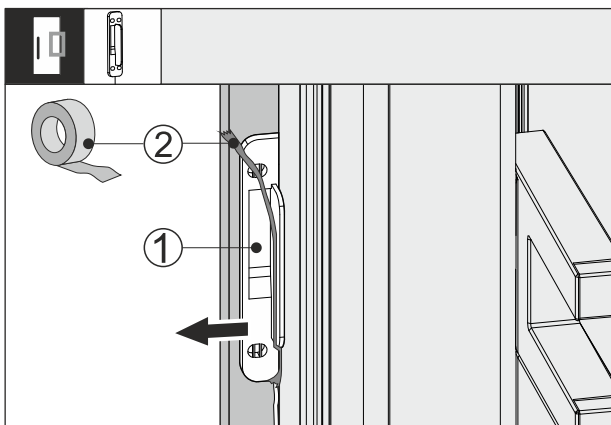

Fig. 63
- ▶ Remove the adhesive tape Fig. 63 (2) from the knocking sensor Fig. 63 (1).